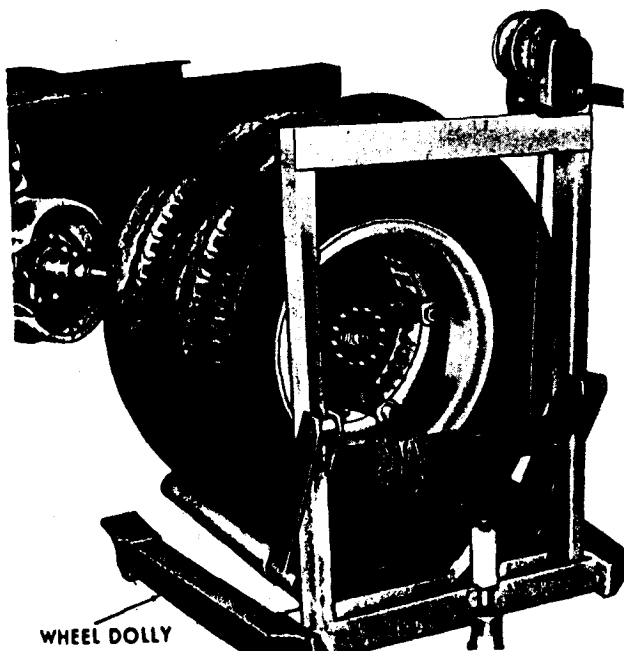

Figure 3—Using A Typical Wheel Dolly
3. Remove rear dual wheels using a wheel dolly (figure 3) to allow access to spring assembly.
1. Place floor jacks under both rear axles and remove dual wheels using a wheel dolly (figure 3) from both rear axles on one side. This will allow access to the forward eye pin and the rear rebound bolt. Raise and support vehicle frame to remove load from the spring.